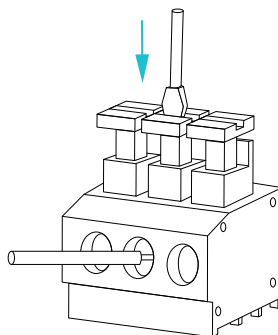

Figure 6 AcuTEMS IM Push Button terminal block.
3. To remove the wire, push in the button to open the spring, allowing the wire to be pulled out. Refer to Figure 6 for details.